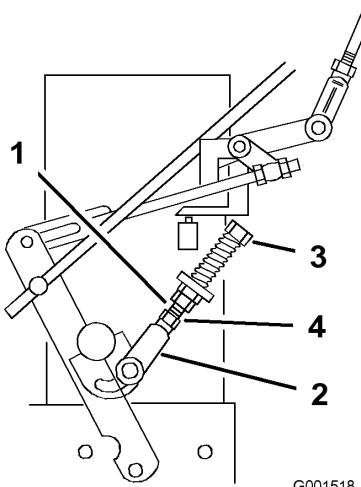

Figure 35
9. If the wheel turns while holding the drive lever in neutral, the neutral control linkages need to be adjusted (Figure 35). If wheel stops then go to step 12.
10. Loosen the nut against the neutral control linkage yoke (Figure 35).
pulled against the neutral spring (neutral position) (Figure 35).
12. Turn the adjusting bolt approximately 1/4 turn clockwise if the wheel is turning in reverse or turn the bolt approximately 1/4 turn counter-clockwise if the wheel is turning forward (Figure 35).